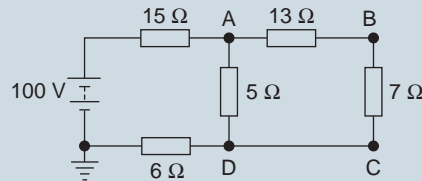

Figure 7.51
1. For the circuit of Fig. 7.51, calculate (a) the absolute voltage at points A, B and C, (b) the voltage at A relative to B and C and (c) the voltage at D relative to B and A.